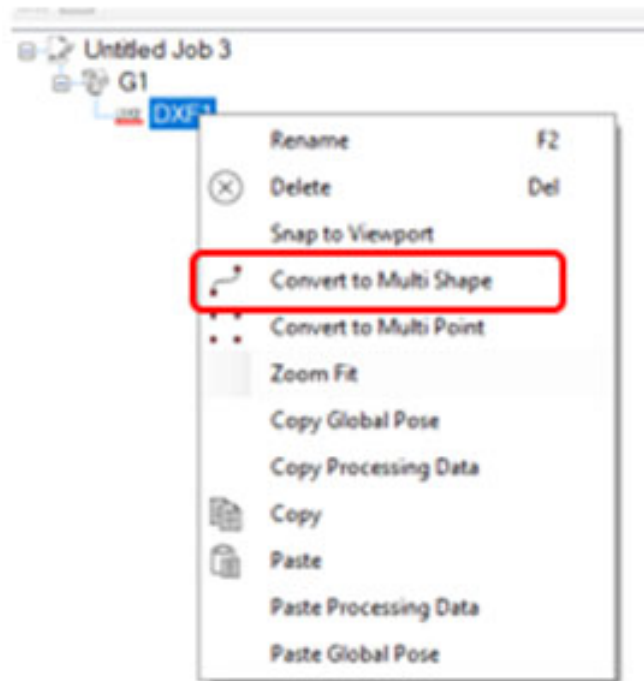

Figure 148: Convert to Multi Shape for Wrap
2. Select this DXF object, right click and select 'convert to Multi Shape'. See Figure 148 (below).